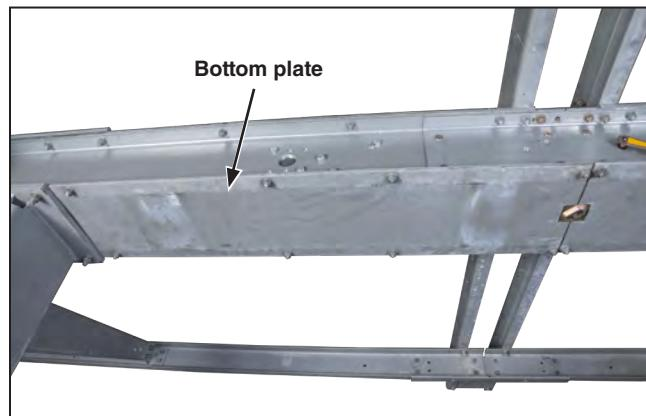

Figure 7. Removing the bottom plates from the high-speed base.
STEP 1. Loosen the $\frac{1}{2}\text{--}13 \times 1\frac{1}{4}$ -inch galvanized steel cap screws, flat washers, and nuts used to attach the bottom plates and lifting angles to the underside of the high-speed base. Remove the plates and place them and their hardware aside on a clean surface. Discard the lifting angles. See Figure 7.